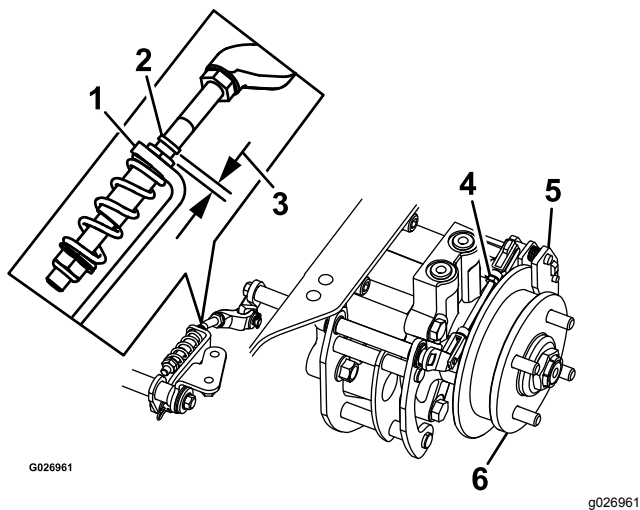

Figure 82
8. Check to see if there is a visible gap between the L-bracket and the linkage stop (Figure 82).